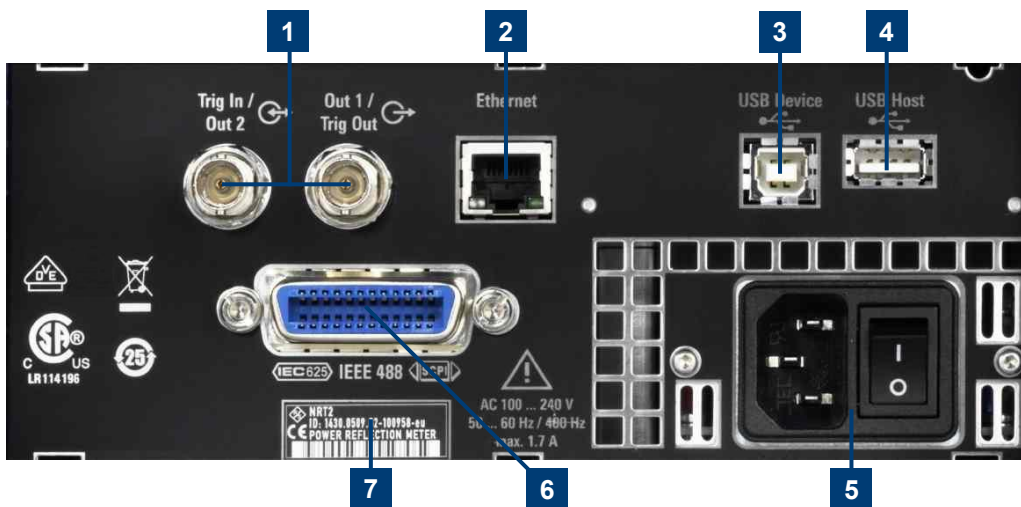

Figure 5-2: Rear panel of the R&S NRT2
See (1) in Figure 5-2.
See (2) in Figure 5-2.
See (3) in Figure 5-2.
See (5) in Figure 5-2.
See (6) in Figure 5-2.
See (7) in Figure 5-2.